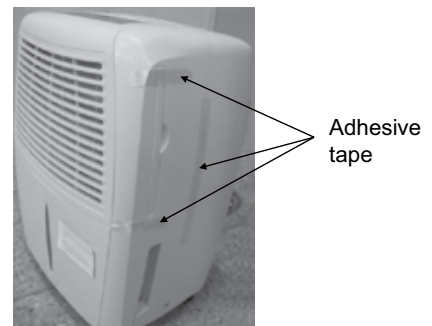

Fig. 1
- When removing your dehumidifier from its packaging, you will find plastic adhesive tape on several places of the unit (see Fig.1) It is for transportation purpose only. Remove adhesive tape before you use your dehumidifier.